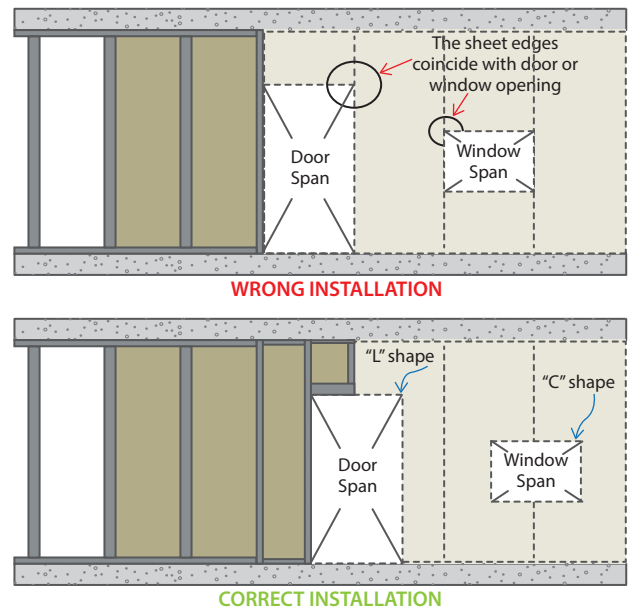

Figure 7: Sheet Layout with Door and Window Opening
- Install the stud for door or window prior to board installation as 2.1.2 and 2.1.3. Make C shape or L shape boards section to avoid cracks at the joint between the boards and the door or window edges. Ensure that the sheet edges do not coincide with the side of the door or window opening. Refer to Figure 7 for sheet layout with door and window opening.